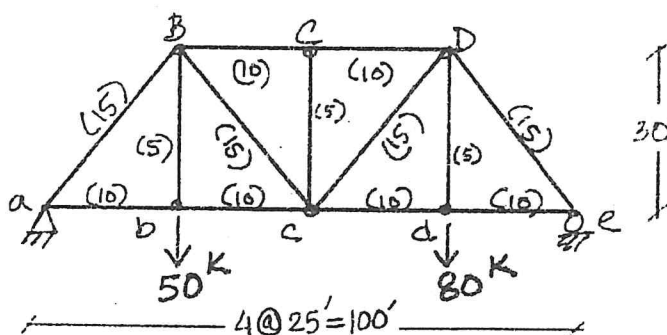

Fig. 2
- (b) Using the method of virtual work, determine the relative deflection between **b** and **D** along line connecting **b-D** of the loaded truss shown in Fig. 2. Each member's cross-sectional area is shown in the figure in brackets (unit of the numerical value of Area is in^2). Given that $E = 29000 \text{ ksi}$. (23)